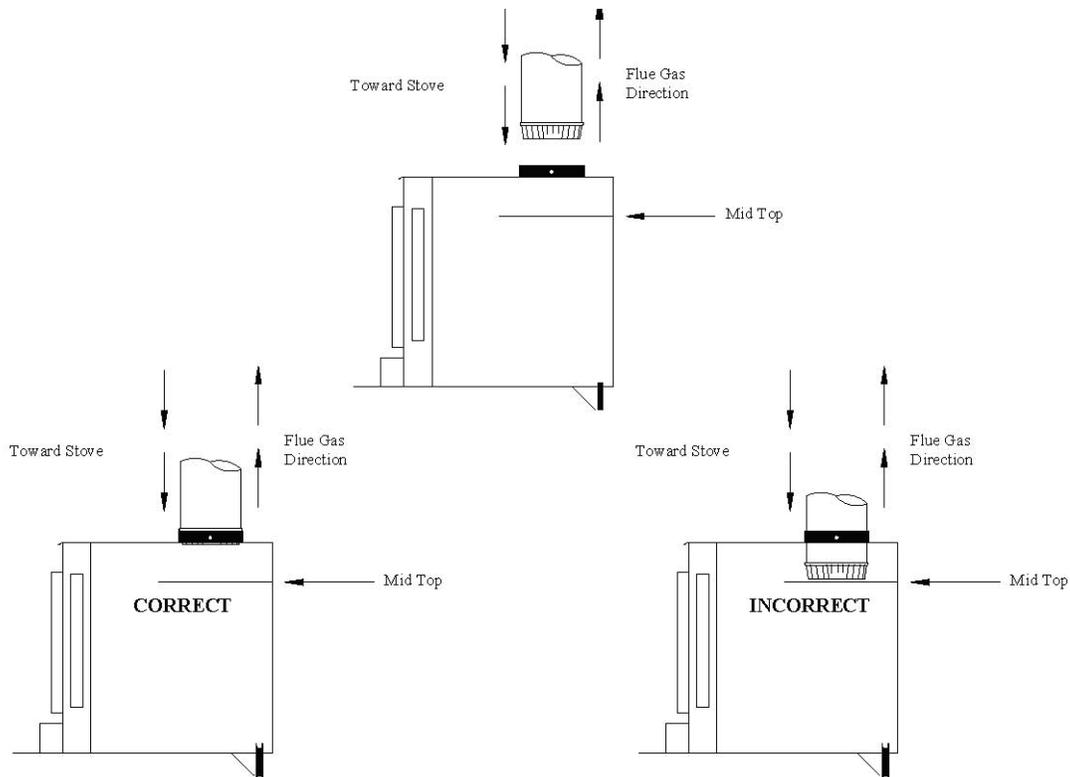

FIGURE 35: CATALYTIC STOVE TO CHIMNEY CONNECTOR INTERFACE
- 2 **IMPORTANT:** All Country Flame catalytic stove's flue collars have been engineered, tested, and approved for a specific stove that takes into account the minimum and maximum burn rates. These flue collars have the correct inside diameter to accept listed standard chimney connectors from a variety of manufacturers. Ensure the chimney connector is properly interfaced, properly sealed, and properly secured according to local and national codes. FIGURE 35 shows the correct and incorrect installation of a chimney connector into a Country Flame catalytic stove. Installed correctly, the first section of chimney connector will support the entire chimney, ensuring no leakage of creosote or fumes.